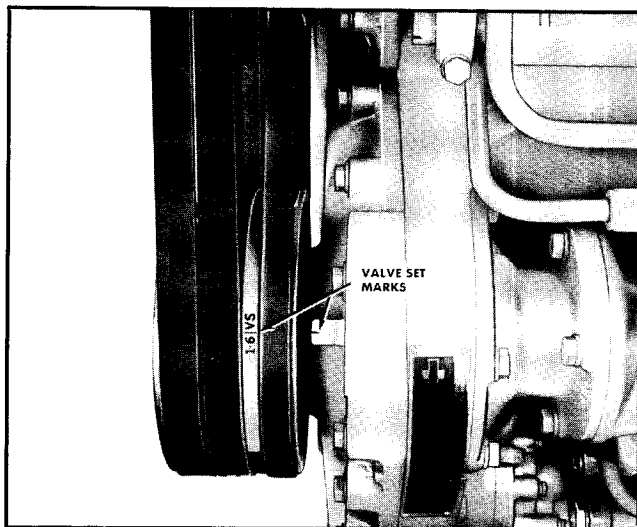

Fig. 3-9. Valve set timing marks
2. Bar engine in direction of rotation until the "1-6VS" mark on the fan drive pulley is in line with the timing mark on the gear case cover (see Fig. 3-9). On horizontal model engines the valve set marks are on the vibration damper flange. In this position, both intake and exhaust valves will be closed for No. 1 cylinder.